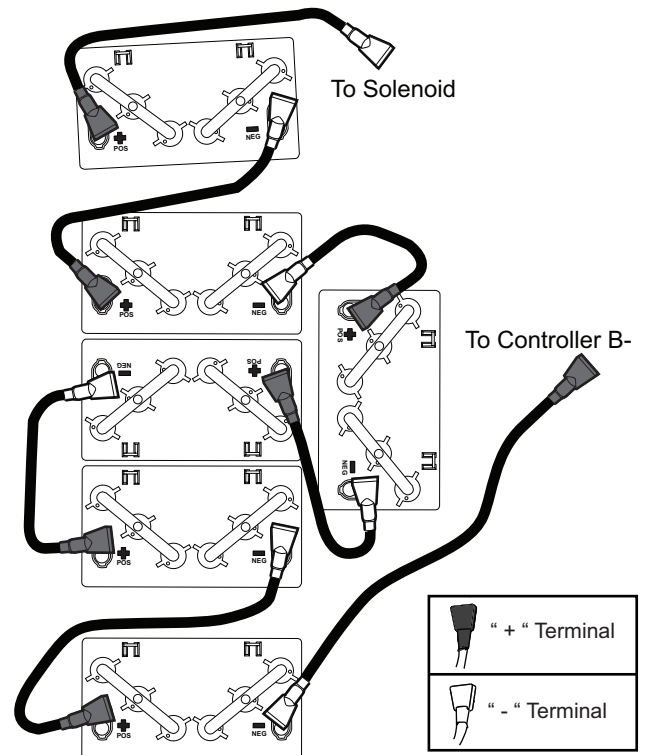

Fig. 2 Battery Connections
1. Place the batteries (3) in the battery racks.
2. Install the battery hold downs (2) and battery bracket (1) with hold down bolts (4).
3. Tighten the lock nuts (6) to torque specified below, tight enough to prevent movement of the battery but not tight enough to cause distortion of the battery cases.
6. Connect the battery wires as shown (Ref. Fig. 2). Be sure that all battery terminals are installed with crimp upward.